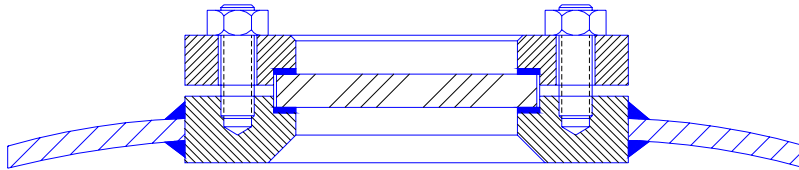

Figure 2
b) Radius Vessel Wall with Flat Weld Pad (Figure 2)